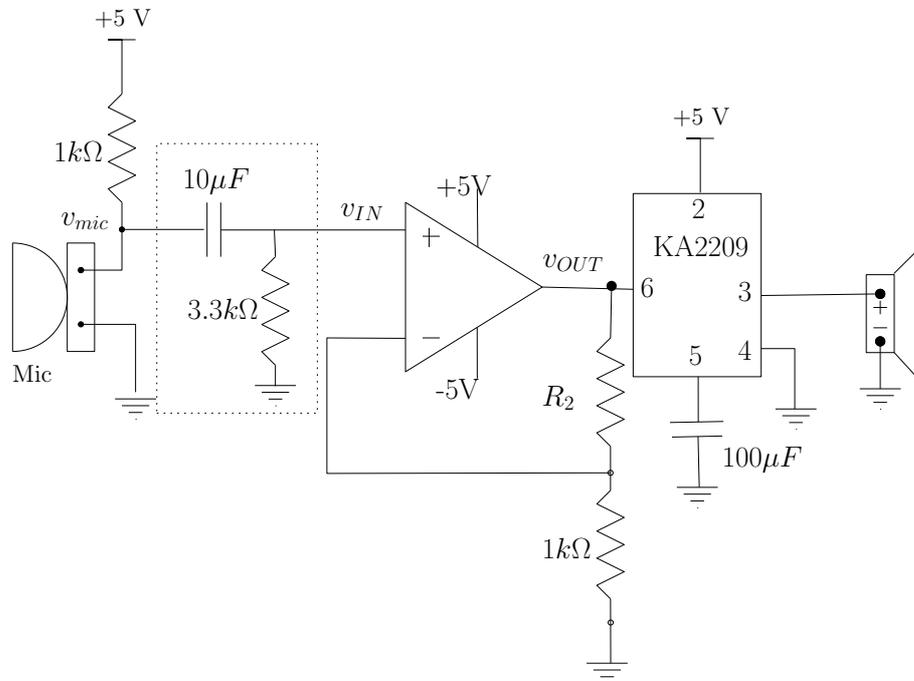

Figure 5: A complete sound system.
4. Wire the final circuit as shown in Figure 5. You may need to readjust the gain of the preamplifier because the power amplifier we are using also does voltage amplification. For now, keep the gain of the preamplifier to around 1.